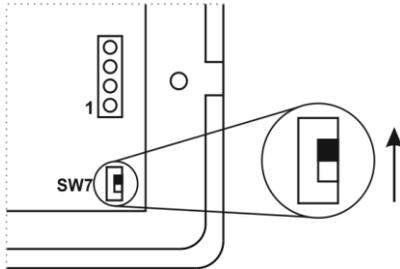

Figure 6: RC-43T K-Net Bus Termination Switch
| Figure 6: | RC-43T K-Net Bus Termination Switch | 10 |
- Slide SW7 (see SW7) into the position shown in Figure 6